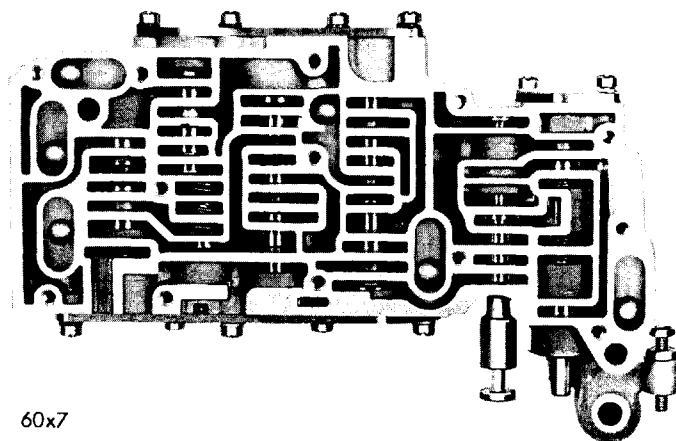

Fig. 95—Location of Check Valve Balls In Valve Body
held and lowered cautiously to prevent loss of any of the six ball check valves. Observe the location of these balls and then remove the balls. All check valve balls are the same size. Fig. 95.
(10) Install shuttle valve spring (SC) followed by shuttle valve plug (B).
(11) Insert 1-2 relay valve (E), spring pilot end outward, followed by relay valve spring (D) into valve body.
(12) Install 1-2 and 2-3 shift valve governor plugs (F-G).
(13) Place shuttle valve and governor plug plate cover (A) on valve body and tighten screws 25-30 inch pounds torque.
(14) Place the six ball checks in their respective positions in the valve body, as shown in Figure 95.